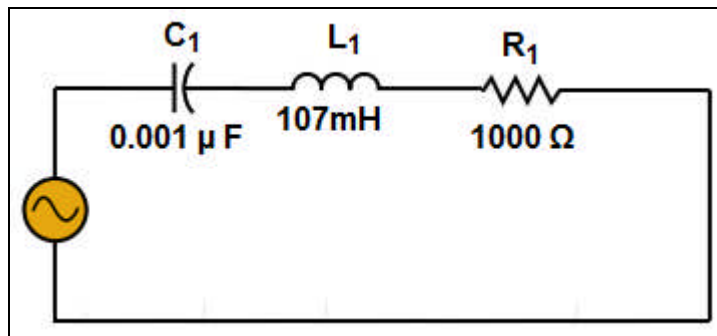

Fig. 1-1
3. Disconnect the voltmeter. Construct the circuit shown in Fig. 1-1.
6. Using the values of L_1 and C_1 given in Fig. 1-1 to compute the resonant frequency of the circuit. (f_o = _____ Hz)
29. Reconstruct the circuit shown in Fig. 1-1. Set the generator range switch to maximum and connect the AC voltmeter across C_1 .